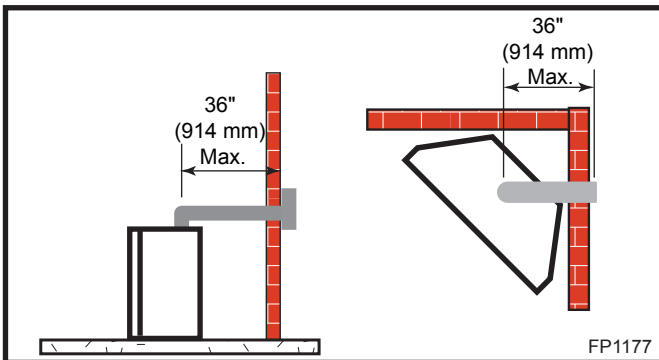
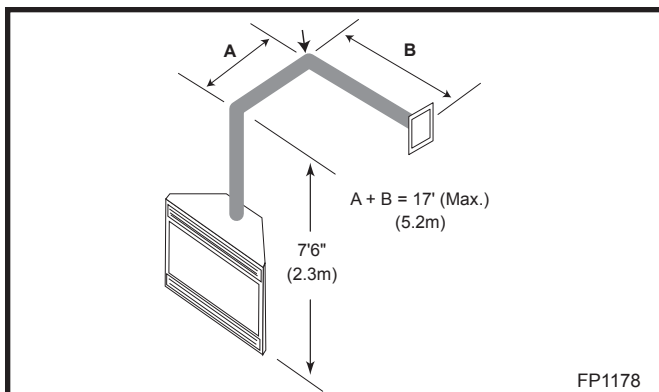
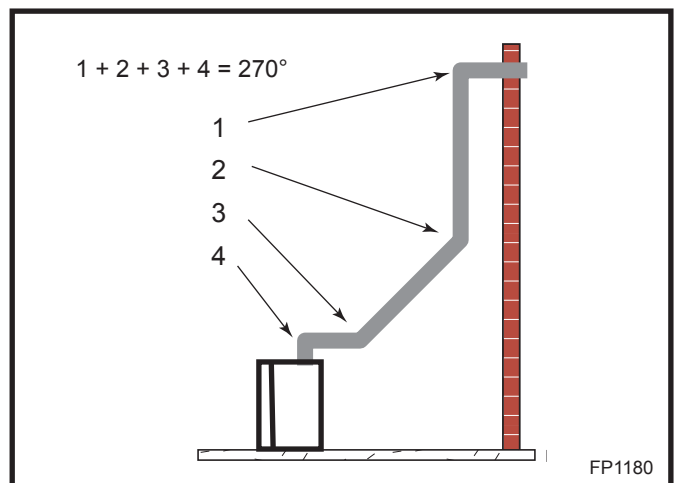

Fig. 12 Maximum horizontal run with no rise.
Fig. 13 Horizontal run reduction.
Fig. 14 Maximum elbow usage.
- If a 90° elbow is fitted directly on top of the fireplace flange, the maximum horizontal vent run before the termination or a vertical rise is 36" (914 mm). (Fig. 12)
- If a 90° elbow is used in the horizontal vent run (level height maintained) the maximum horizontal vent length is reduced by 36" (914 mm). (Fig. 12) This does not apply if the 90° elbows are used to increase or redirect a vertical rise. (Fig. 13)
**Example:** According to the vent graph (Page 10) the maximum horizontal vent length in a system with a 7.5' (2.3 m) vertical rise is 20' (6 m) and if a 90° elbow is required in the horizontal vent it must be reduced to 17' (5.2 m). In Figure 13 Dimension A plus B must not be greater than 17' (5.2 m).
- The maximum number of 45° elbows permitted per side wall installation is two (2). These elbows can be installed in either the vertical or horizontal run.
- The maximum number of elbow degrees in a system is 270°. (Fig. 14)